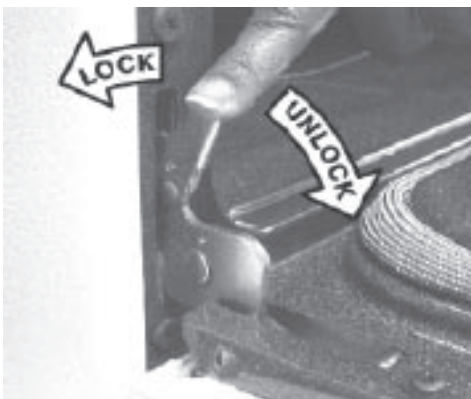

Figure 2
3. Pull the door hinge locks on both left and right door hinges down from the oven frame completely towards the oven door (See Figure 2). A tool such as a small flat-blade screwdriver may be required.
4. Push the door hinge locks up towards and into the oven frame on both left and right oven door hinges (See Figure 2) to the locked position.